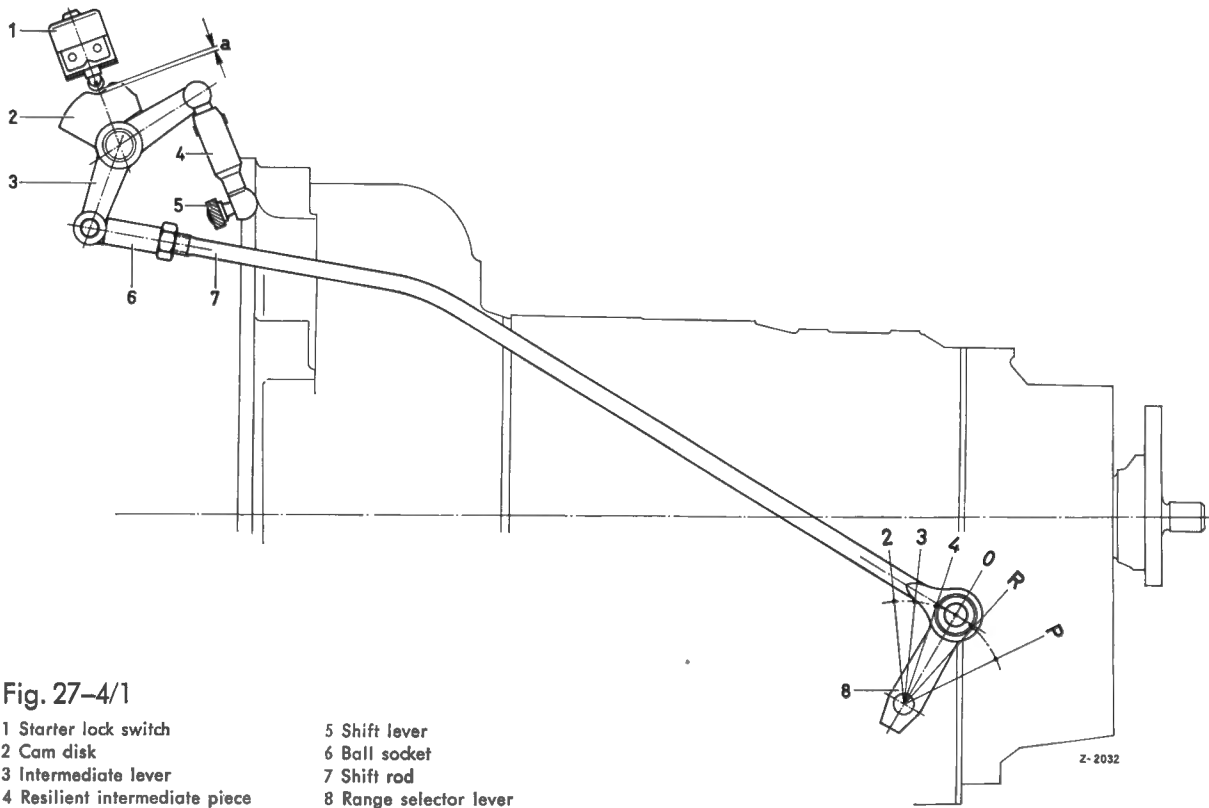

Fig. 27-4/1
Change: Adjustment of additional lever with Fig. 27-4/1 added.
Remove shift rod (7), set range selector lever (8) on transmission and selector lever to "0". Push shift rod (7) by a screwdriver on bearing pin of range selector lever (8). Adjust shift rod so that ball socket coincides with ball head on intermediate lever (3). Suspend shift rod on intermediate lever and lock by a wire lock. Tighten counter nut (Fig. 27-4/1).